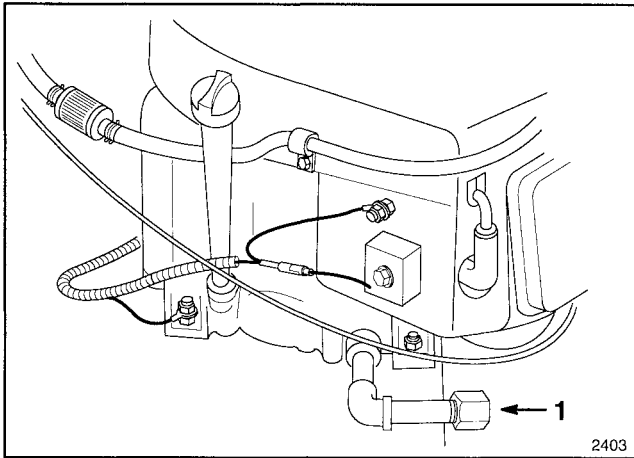

Figure 15
- b. Shut engine off. Place drain pan below drain plug (Fig. 15). Remove drain plug and allow all oil to flow into drain pan. Install drain plug after oil stops flowing.